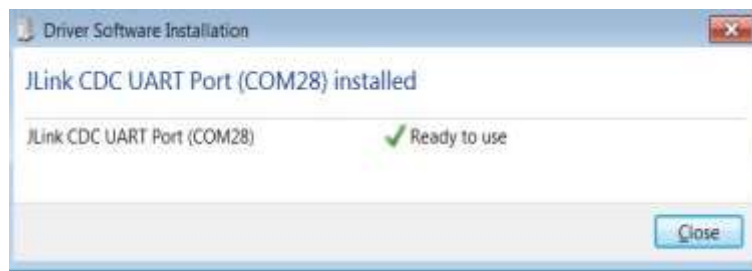

Figure 7: Windows Driver Installation
When the driver installation is complete, the system displays a window similar to the one presented in **Figure 7**.
**Note:** The COM port number assigned to the might be different to the one shown in **Figure 7**.